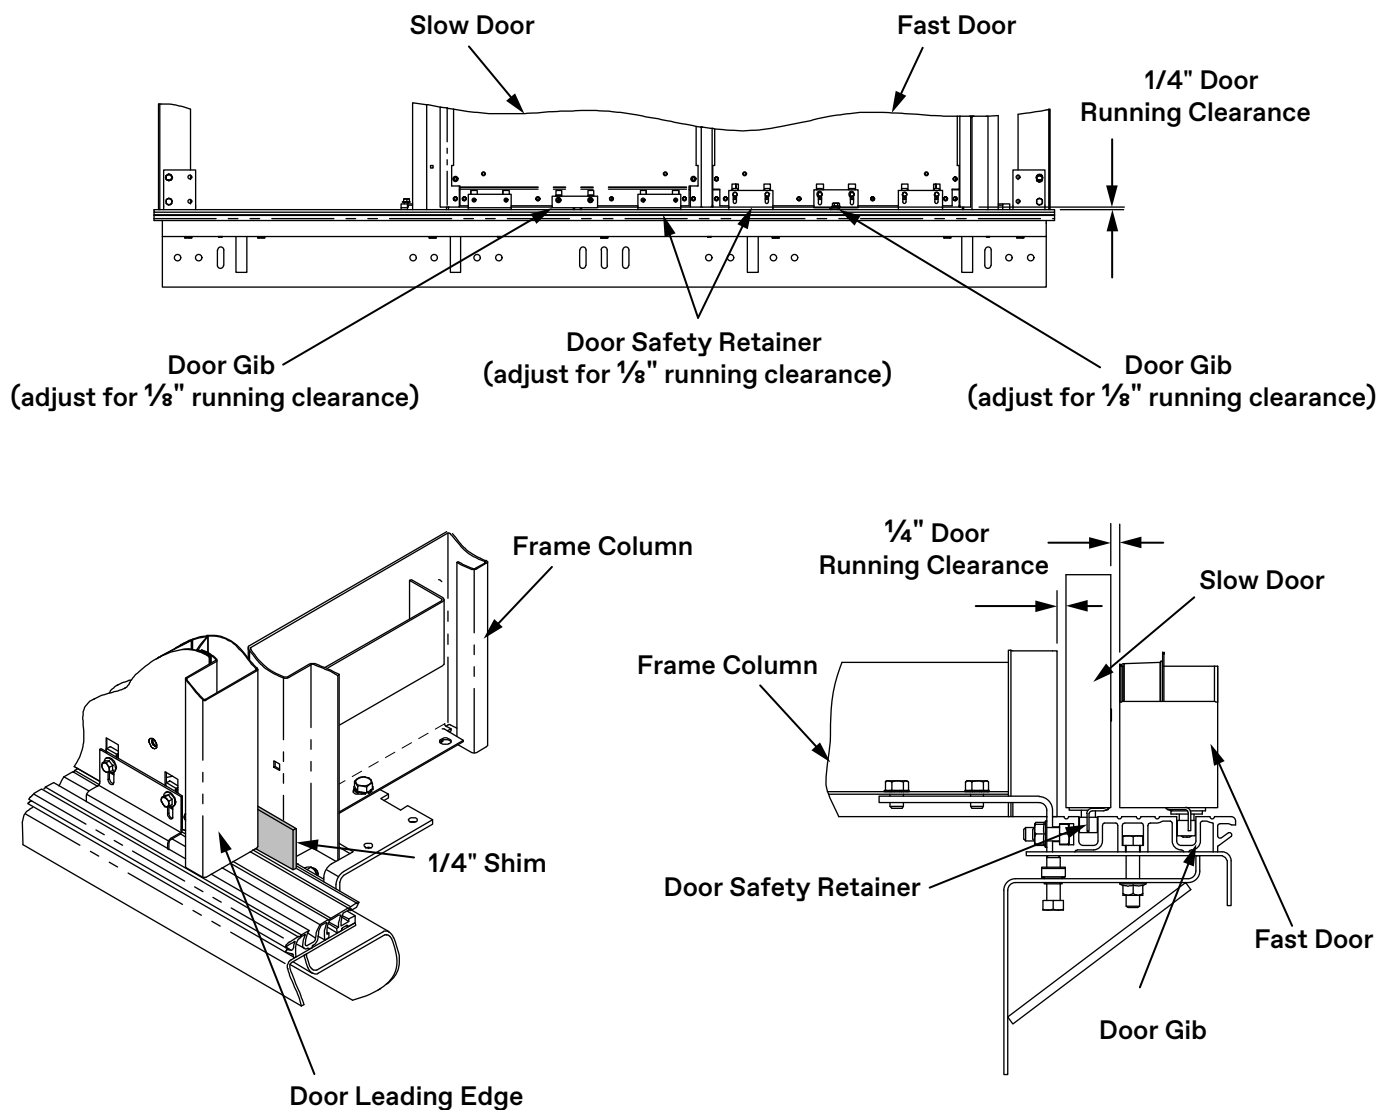

Figure 29 - Adjust Door Gibs
1. Adjust the door gib brackets and the door retainer brackets for a $\frac{1}{8}$ " running clearance between the brackets and the hoistway sill. Tighten the bolts after adjustment. See Figure 29.